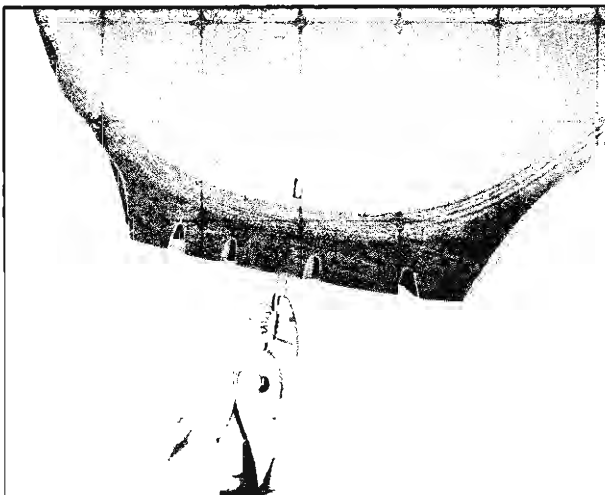

Fig. 48—Installing Filler Rubber in Hole
- b. Remove detachable handle from awl needle. Cut $\frac{1}{8}$ " by 1" strip of Filler Rubber, remove protective cover and insert into hole of awl needle with end of rubber strip extending beyond the needle. (See Figure 48).